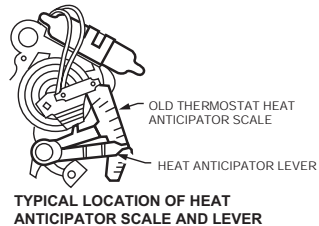

Fig. 1. Heat anticipator on old thermostat (example).
3. Locate the heat anticipator scale and the heat anticipator lever on the old thermostat (see Fig. 1).